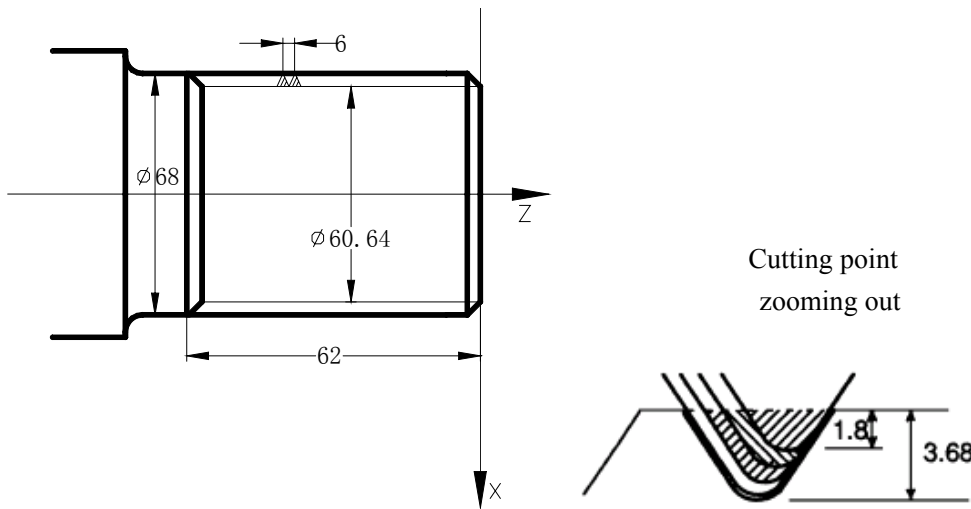

Fig. 3-44
- ⑦ The tool rapidly traverses to E point in X direction;
- ⑧ The tool rapidly traverses to A point in Z direction and the thread roughing cycle is completed to execute the finishing;
- ⑨ After the tool rapidly traverses to B(the cutting depth is k and the cutting travel is d), execute the thread finishing, at last the tool returns to A point and so the thread finishing cycle is completed;
- ⑩ If the finishing cycle times is less than m, execute ⑨ to perform the finishing cycle, the thread cutting depth is k and the cutting travel is 0; if the finishing cycle times is equal to m, G76 compound thread machining cycle is completed.
- The direction of A→C→D→E is defined by signs of U,W , and the direction of C→D is defined by the sign of R (i) . There are four kinds of sign composition of U, W corresponding to four kinds of machining path as Fig. 3-44.
Example: Fig. 3-44, thread M68 × 6.